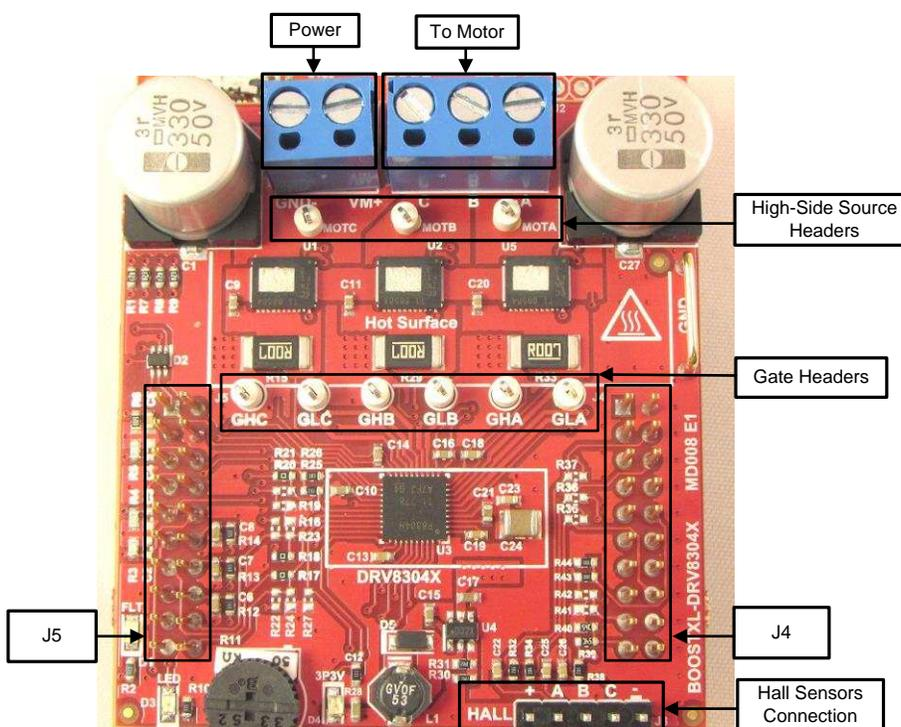

Figure 3. Connections Overview
Figure 3 shows the various jumper labels on the BOOSTXL-DRV8304H EVM.
- Step 4. Connect the three phases of the BLDC motor to the three-phase motor socket, J2 (the pins are labeled A, B, and C), provided on the BOOSTXL-DRV8304H EVM board (see Figure 3).